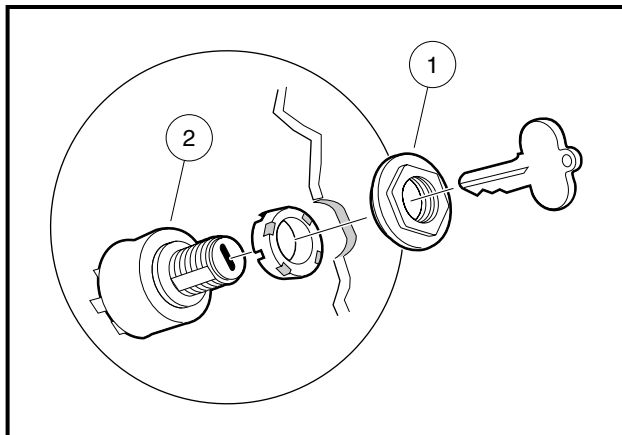

Figure 12-20 Key Switch Removal
- 6.1. Remove the key switch nut (1) (**Figure 12-20, Page 12-17**).